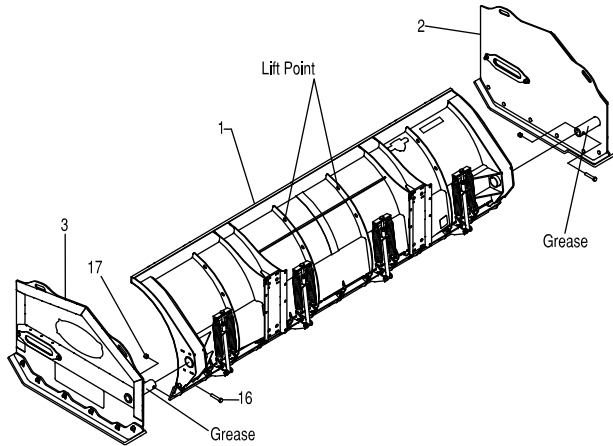
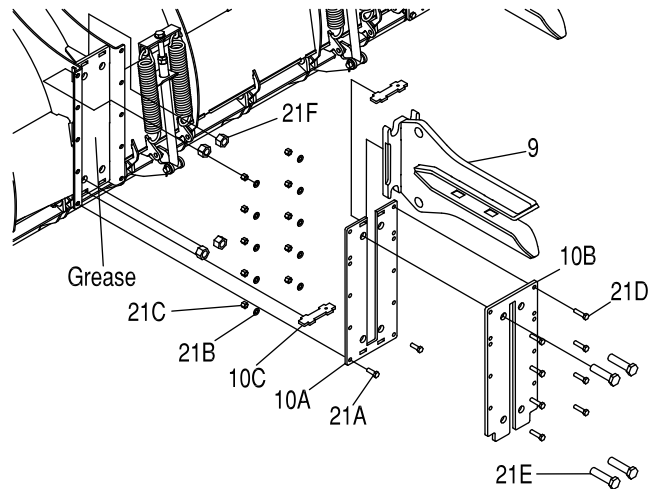

Figure 2. Wing Attachment
Figure 4. Slip Hitch Assembly
- Apply grease to slip hitch assembly and wing hinge bushing. See Figure 2 and Figure 4.